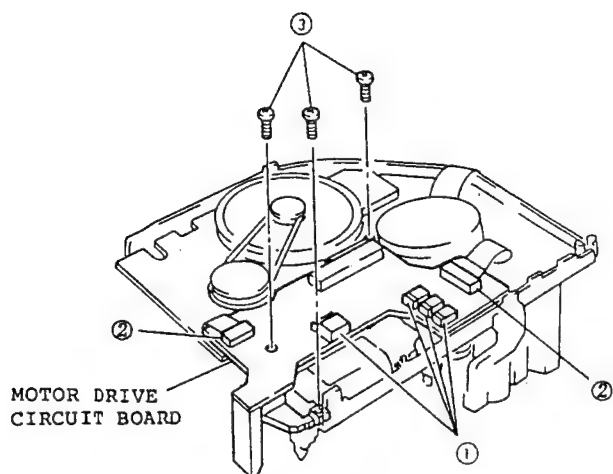

Fig. 2-62
(See Fig. 2-62)
1. Remove the motor drive circuit board. (See Fig. 2-62)